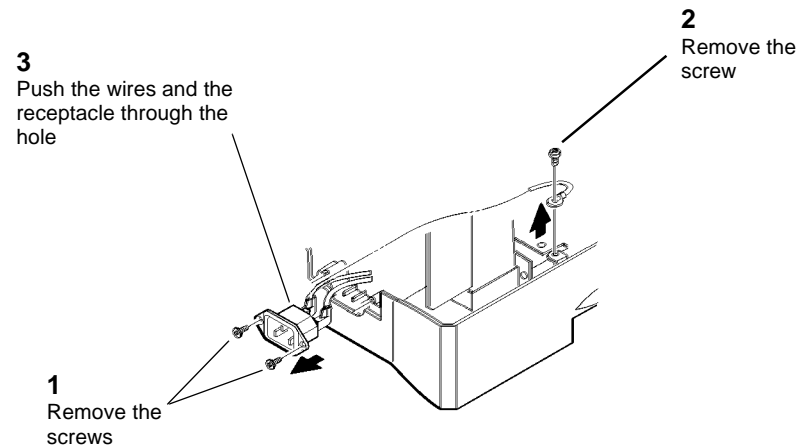

Figure 1 Moving the Power Receptacle
5. (Figure 1): Move the Power Receptacle from its position on the Base Assembly.